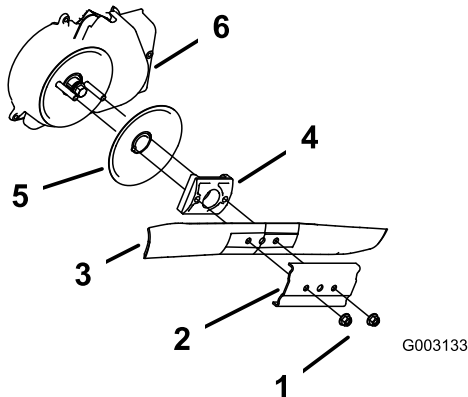

Figure 36
3. Remove the 2 blade nuts and the stiffener (Figure 36).
4. Remove the blade (Figure 36).
5. Remove the blade driver and disk (Figure 36).
6. Remove the blade-brake-clutch shield (Figure 36).
10. Install the blade and the stiffener that you previously removed (Figure 36).